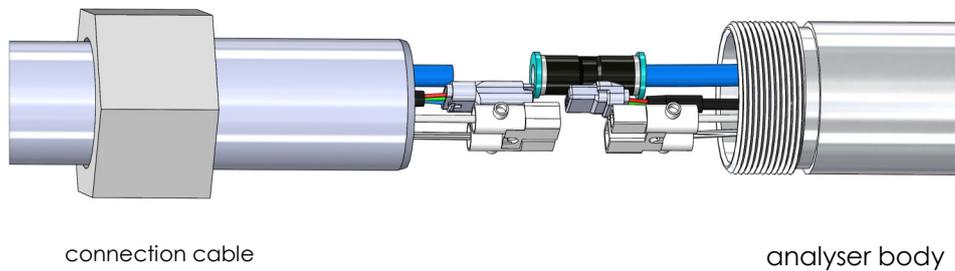

Figure 54
- Connect the data cable (black), the power supply (white/black) and the compressed air tube (blue) according to the fig. 54 (see next page).